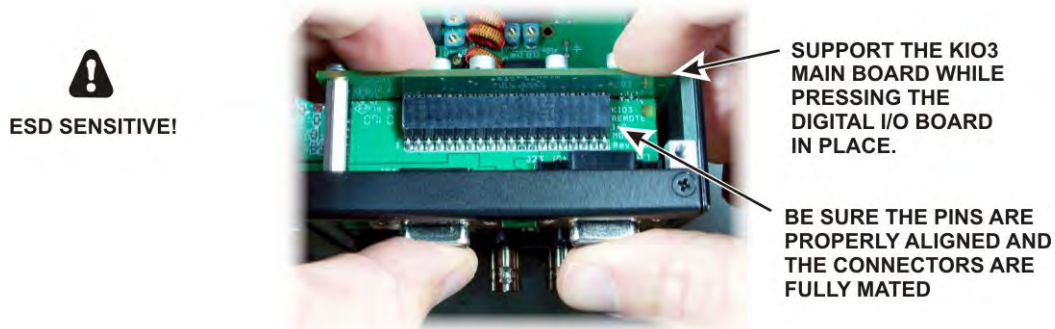

Figure 35. Installing the KIO3 Digital I/O Board.
□ Install the KIO3 Digital I/O daughter board as shown in Figure 35. Be careful to support the KIO3 main board as shown while pressing the daughter board in place.